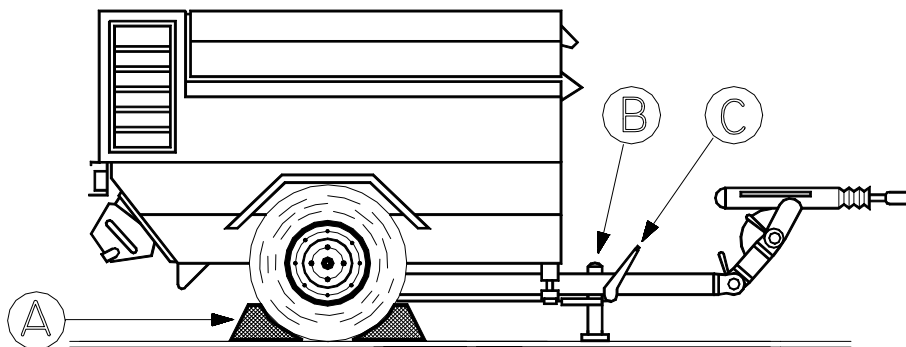

FIG. 7
-- 6-4) PARKING INSTRUCTIONS (Fig. 7) --
Before disconnecting the unit from the truck or from the lifting hook, adjust the height of the support foot (fig. 7 part B) or of the pivoting wheel so that the motor-driven compressor is in horizontally positioned.